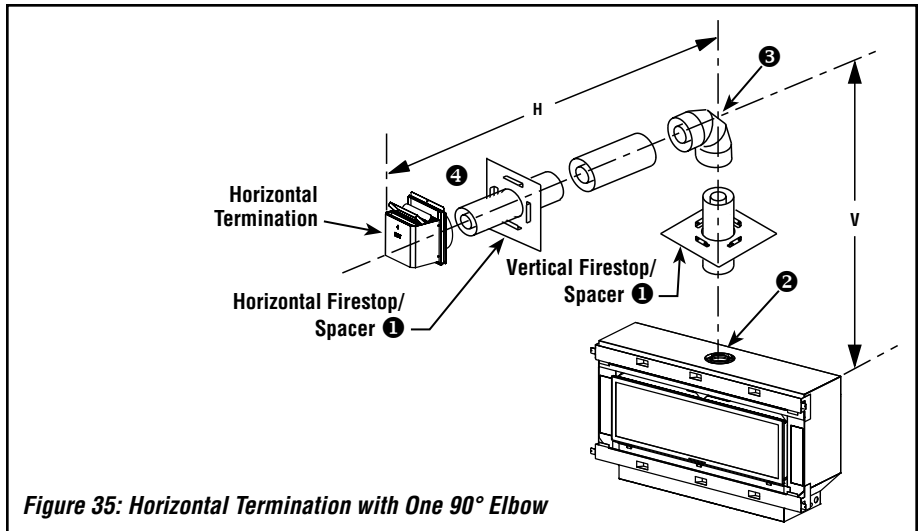

Figure 35: Horizontal Termination with One 90° Elbow
- Typical horizontal termination systems are shown in *Figures 35, 36, and 27*.